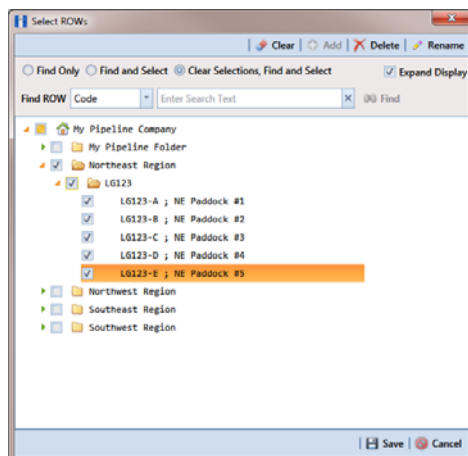

Figure 7-56. Select ROWs
- 1 Click the **Select ROWs** button  to open the *Select ROWs* window (Figure 7-56). Select the pipeline segment(s) with the facilities you want to work with, then click  **Save** to close the window.
- 1 Click the **Select ROWs** button  to open the *Select ROWs* window (Figure 7-56, page 246). Select the pipeline segment(s) with the facilities you want to work with, then click  **Save** to close the window.